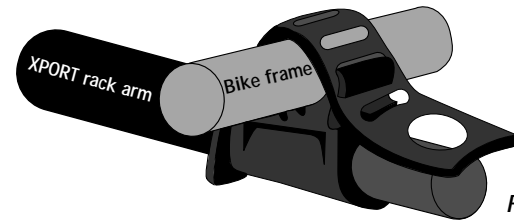

Figure 4
10. Secure the bikes onto the Bike Blocks with the rubber strap by pulling it tight around the bike frame. Make sure the hook portion of the Bike Block cradle is inserted completely into the oval of the rubber strap (see figure 4). Use care to not cut or tear the rubber strap. Do not use a Bike Block that is cut or torn. Replacement Bike Blocks are available.